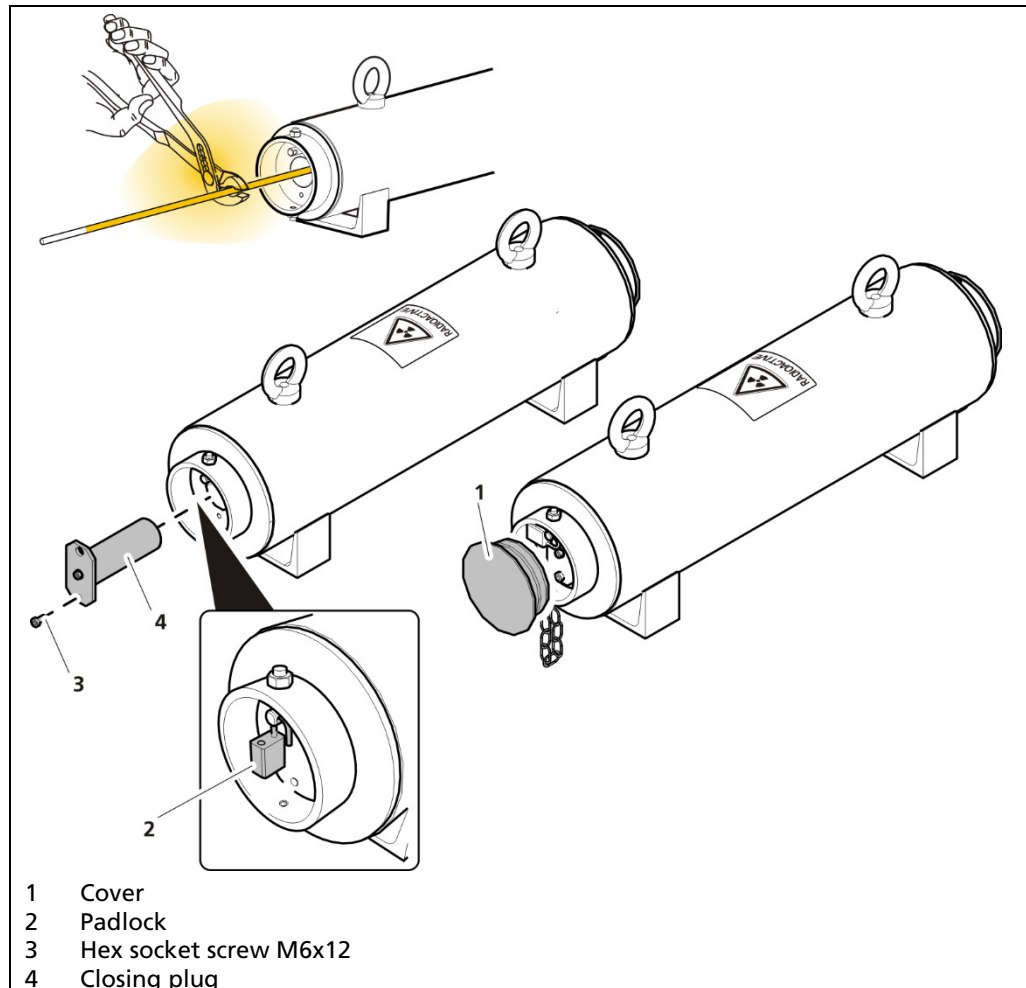

Fig. 8 Insert Rod Source
2. Fit the closing plug (Fig. 8, Item 4) and screw it with a hex socket screw (Fig. 8, Item 3)
3. Attach the padlock (Fig. 8, Item 2).
4. Attach the cover (Fig. 8, Item 1).